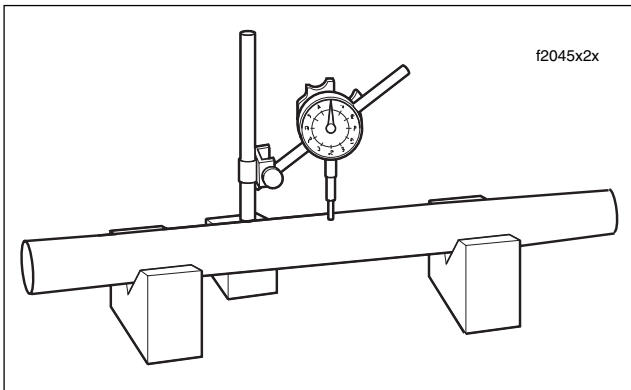

Figure 2-76. Measure Fork Tube Runout
5. Check the fork tube and slider for scoring, scratches and excessive or abnormal wear. Replace parts as necessary. Set the fork tube on V-blocks and measure the runout using a dial indicator gauge. Replace fork if runout exceeds 0.008 inch (0.2 mm). See Figure 2-76.